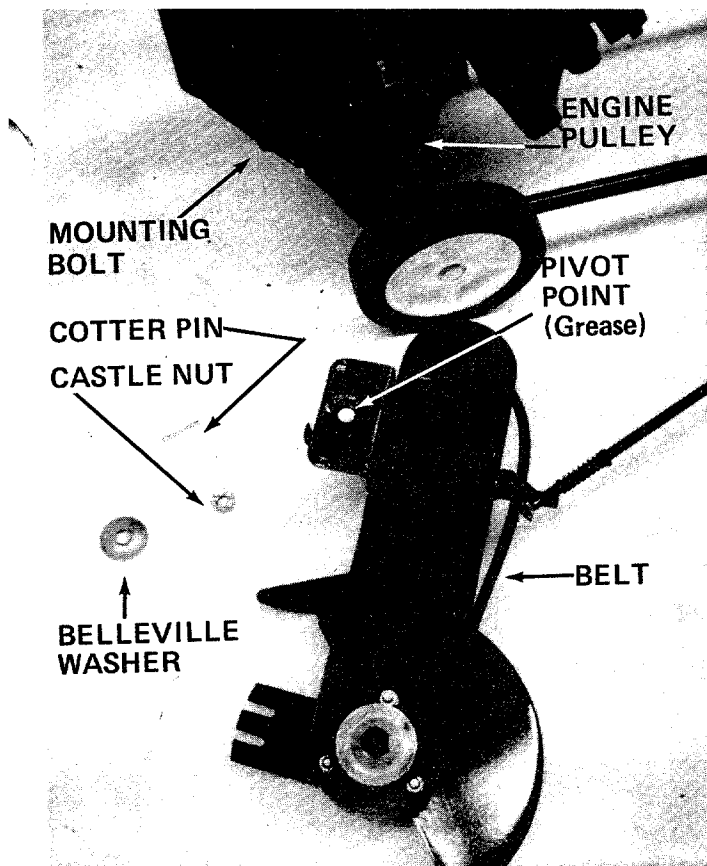

FIGURE 15.
3. Lift off the hex castle nut, belleville washer and belt cover. See figure 15.
While the belt cover is removed, it is a good idea to apply a little grease to the pivot point on belt cover. See figure 15.
6. When tightening the castle nut, only tight enough to line up hole in bolt for cotter pin. **DO NOT OVER TIGHTEN.** Belt cover must pivot freely. See figure 15.